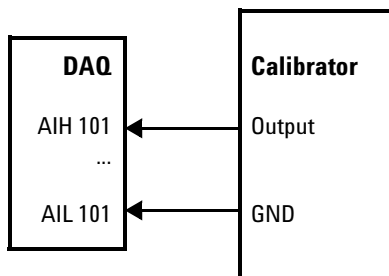

Figure 2-3 The analog input and calibrator connection
- 4 Connect the DAQ device’s analog input ALL channel to the calibrator ground. See Figure 2-3. Note that the analog inputs shown in the figure uses U2531A as an example.
- 2 Connect the DAQ device's analog input AIH channel to calibrator output and connect the analog input AIL channel to calibrator ground. Refer to “Appendix A Connector Pins Configuration” on page 61 for pin assignment. See Figure 2-3 for the hardware connection.